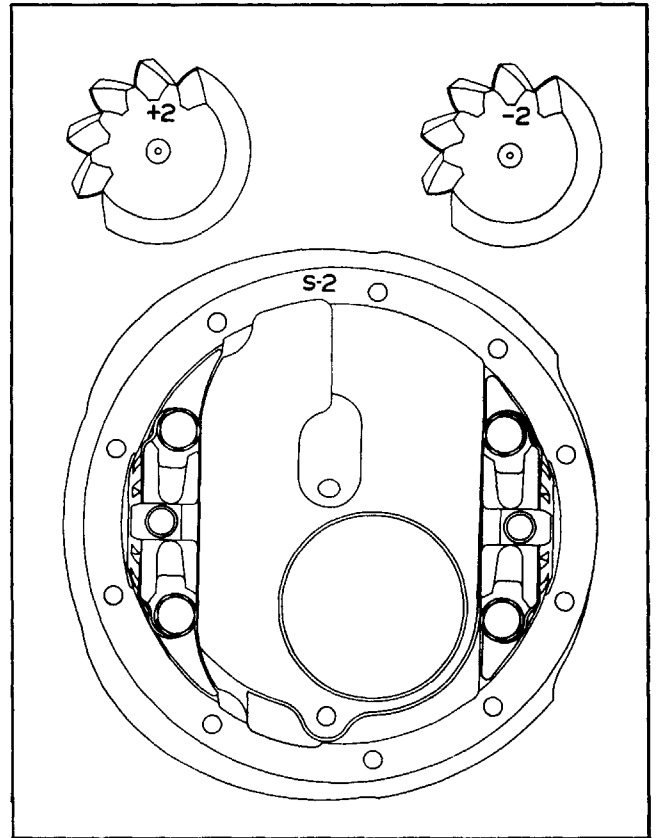

Fig. 4-47 Differential Carrier and Drive Pinion Depth Markings
4. When replacing either gear set or carrier, refer to pinion and carrier markings (Fig. 4-47) and chart (Fig. 4-48) for correct shims to be installed. Differential carriers are marked on the face of the flange (Fig. 4-47) to indicate the number of thousandths "deep" (D) or "shallow" (S) the shoulder for the rear bearing outer race happens to be. Carriers marked "D" require more shims than those marked "O" or "S". The pinion is marked on the end with a number indicating thousandths in shims from basic setting to put it in correct position with "O" carrier. Pinions which are not marked are "O" or basic. Thus, a pinion marked +2 would require a .002" added shim for an "O" carrier. **NOTE:** Letters and symbols are also stamped on pinions during inspection at the factory. Do not mistake inspector's marks for numbers which indicate pinion variations from standard size.
To use shim chart (Fig. 4-48) read marking on pinion and carrier (Fig. 4-47). In the table, read to the right from the carrier marking and down from the pinion marking; the intersection of the carrier line and the pinion column shows the correct total shim thickness to be used. As an example; with markings of S-2 and +1, the correct shim thickness is .009" while the S-2 and -2 markings shown would be .006".